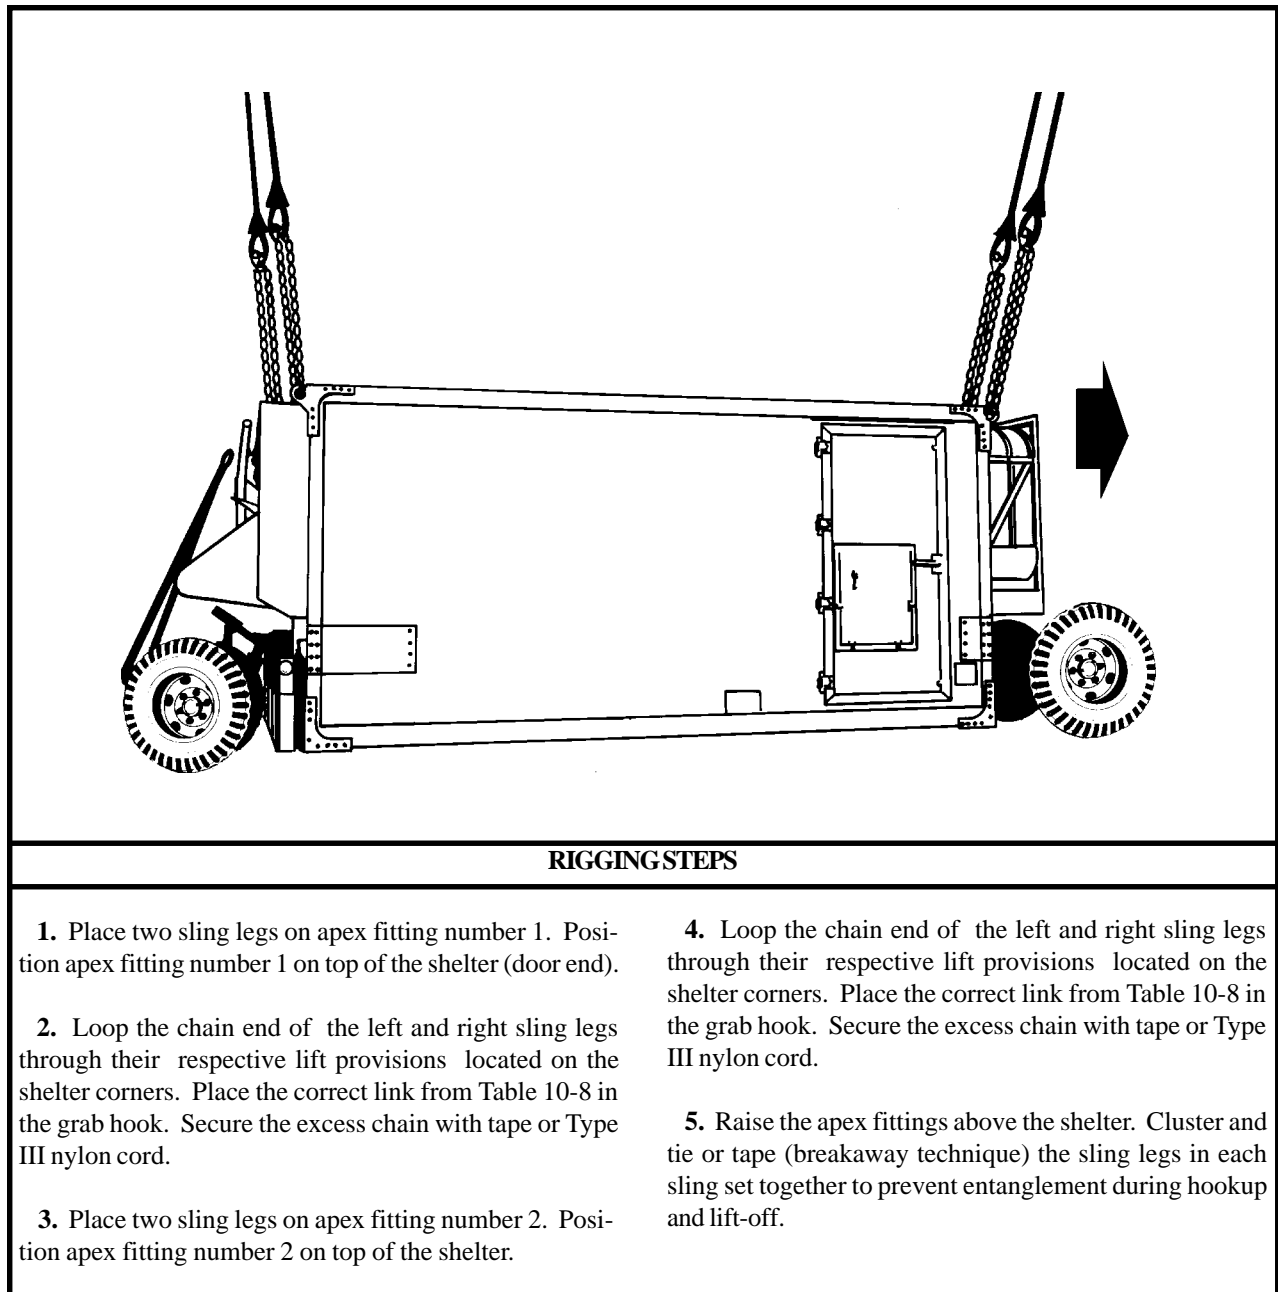

Figure 10-8. Jam-Resistant Secure Communications (JRSC) Satellite Communications Terminal
(2) **Rigging.** Rig the load according to the steps in Figure 10-8.